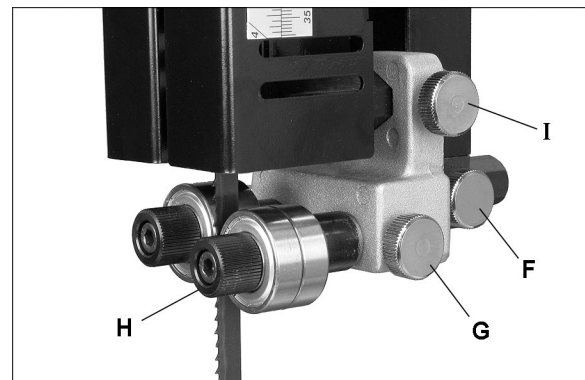

Figure 23
Refer to Figures 23 through 24.
4. Loosen lock knob (F, Figure 23).
Refer to Figures 23 and 26: